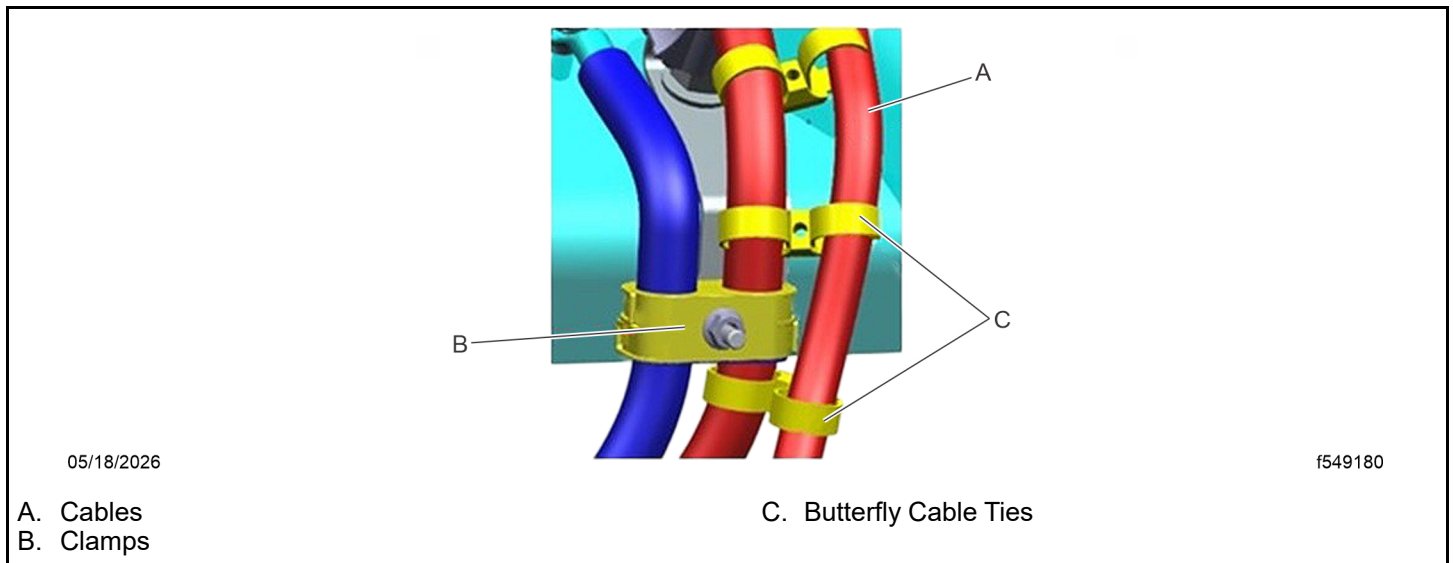

Fig 141, Butterfly Cable Ties Around the Cable Clamps
42. Install the upper and lower cable clamps on the isolator frame bracket. To prevent cables (A) from rubbing, secure any cables routed on the outside cable clamps (B) using butterfly cable ties (C) (TYCDCT110HIR). See Fig. **Fig. 141**.